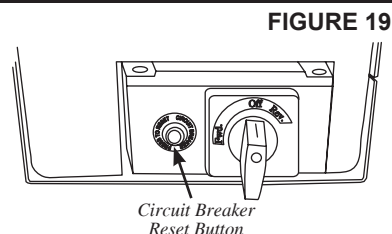

FIGURE 19
2. Press the **Circuit Breaker Reset Button** (Figure 19).